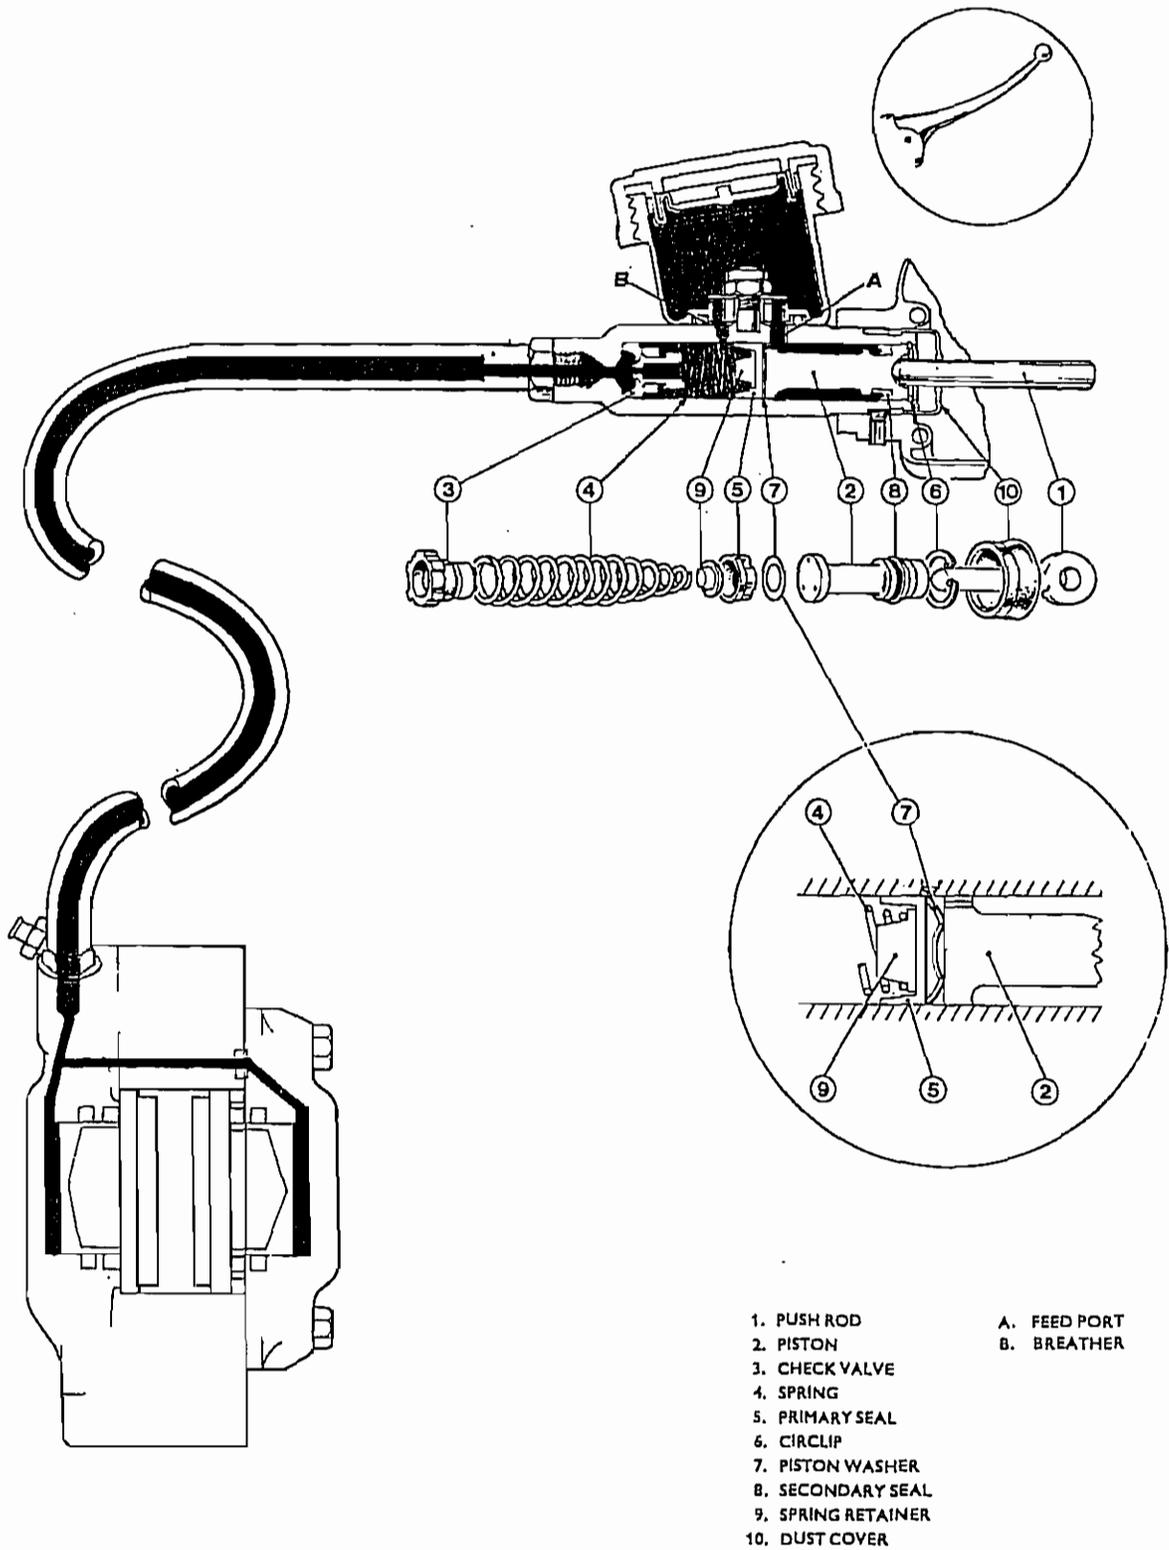
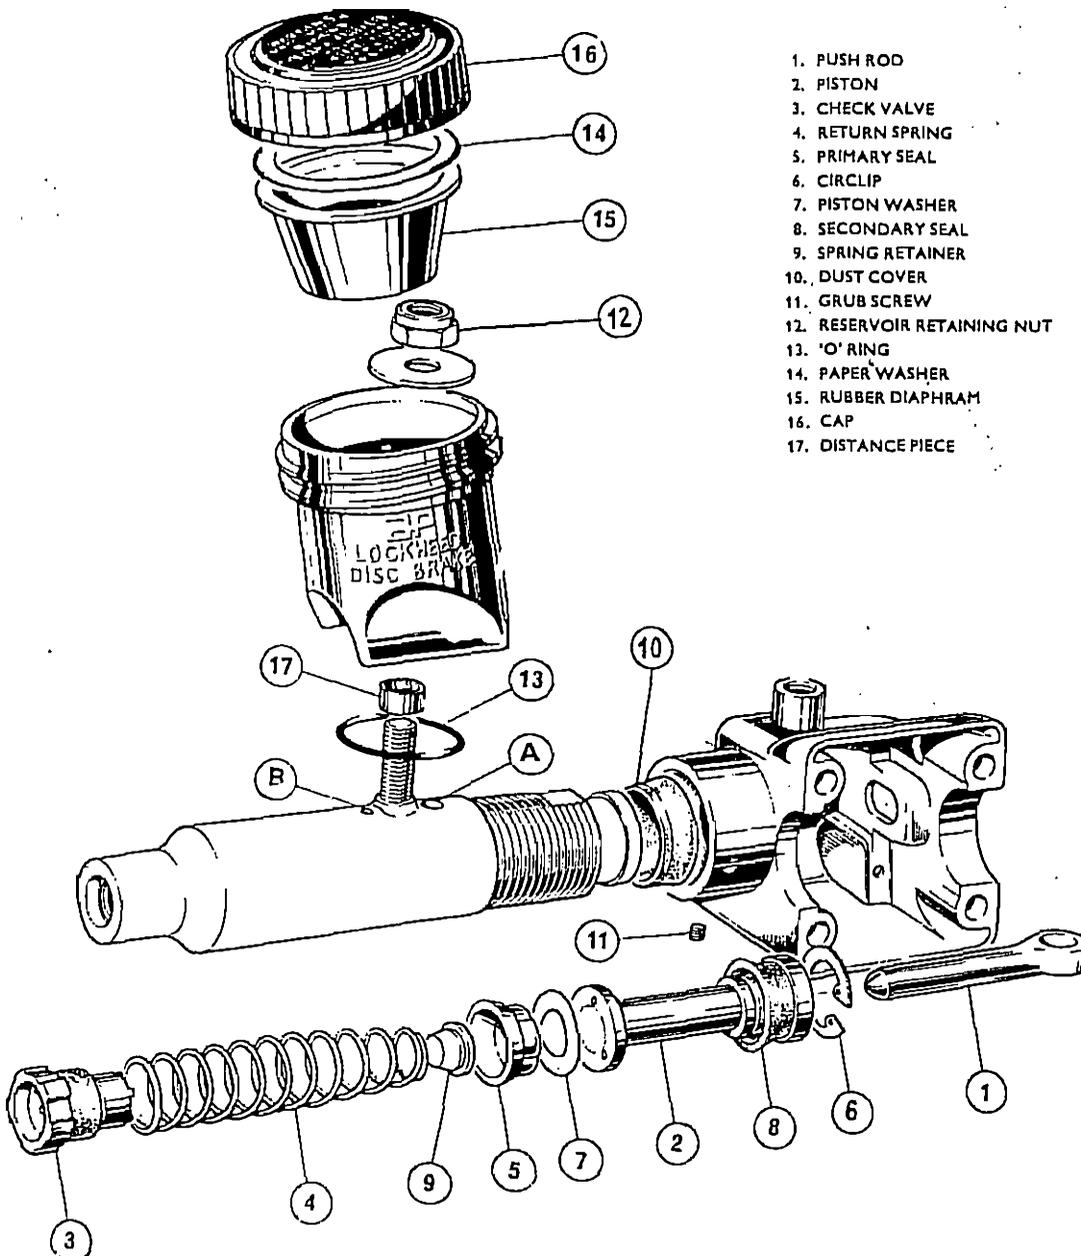

Fig. F5. Hydraulic flow diagram
Fig. F6. Exploded view of master cylinder
The master cylinder consists of a fluid reservoir bolted to a cylinder body, which contains a piston, seals, and other parts, as shown in Fig. F6. With reference to this exploded view, and also the hydraulic flow diagram (Fig. F5), the operation of the brake assembly is as follows.
Removal and dismantling procedure is as follows. First, drain the system of fluid (See Section F6). Remove the rubber hose from the end of the master cylinder. Remove the brake lever and push rod by unscrewing the pivot bolt. Unscrew the four retaining screws that hold the right switch console, and remove the master cylinder from the handlebars. Detach the reservoir bowl from the cylinder, by removing the attachment nut from the inside (See Item 12 Fig. F6). Note assembly of washer, spacer, and O ring. Remove the grub screw that locks the cylinder in position in the switch housing (See Fig. F6), and then unscrew the cylinder. Detach the rubber boot from the end of the cylinder.
Fit the return spring. Empty the cylinder of fluid, and proceed to reassemble the cylinder barrel into the switch housing. At this stage the final position of the cylinder barrel in the housing must be determined. It will be noted, from Fig. F5, that the lip of the primary seal (5) must be  $\frac{1}{8}$  in. behind the breather port, and the reservoir set at an angle of  $10^\circ$  to the vertical. The milled flats on the threaded end of the cylinder are machined relative to the  $10^\circ$  position, and the appropriate one must be used when assembly takes place.
- (d) Place one finger over the main feed port (marked 'A' in Fig. F6), and by blowing through the outlet end of the cylinder, it will be observed that no air will escape from the breather port ('B' Fig. F6).
- (f) Unscrew the barrel one complete turn, and set the angle to 10°. The milled flat on the threaded end of the barrel must be located when the grub screw (Fig. F6) is being retightened, and will set the angle automatically.